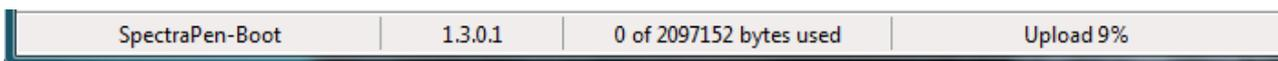

Fig. 38 Firmware update running.
- The bottom bar indicates the upload progress (Fig. 38)